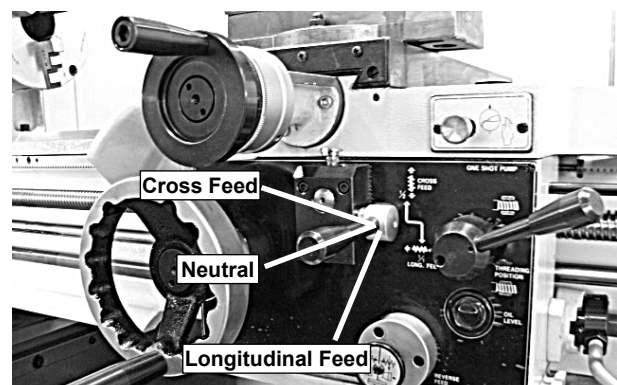

Figure 46. Feed control lever positions.
- Use the feed control lever on the front of the apron to engage power feed for either the carriage or the cross slide (see Figure 46). To engage the carriage, push the lever to the left and down. To engage the cross slide, push the lever to the right and up.